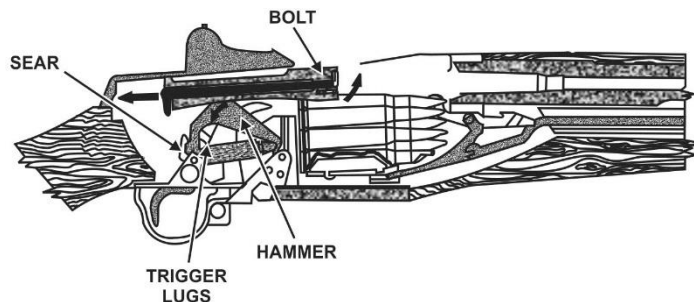

Figure 65. Ejecting an empty cartridge case
- 8) **Cocking.** Cocking occurs when the hammer is forced into the proper position for firing the next round. This happens as the bolt moves to the rear. The rear end of the bolt forces the hammer back and rides over it. The hammer is caught by the sear if the trigger is still held to the rear, and is caught by the trigger lugs if trigger pressure has been released (fig 65).